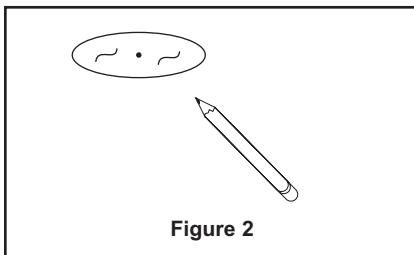

Figure 2
**Step 1.** Locate center of proposed opening on ceiling and use template to mark and accurately cut an opening. (Fig. 2).